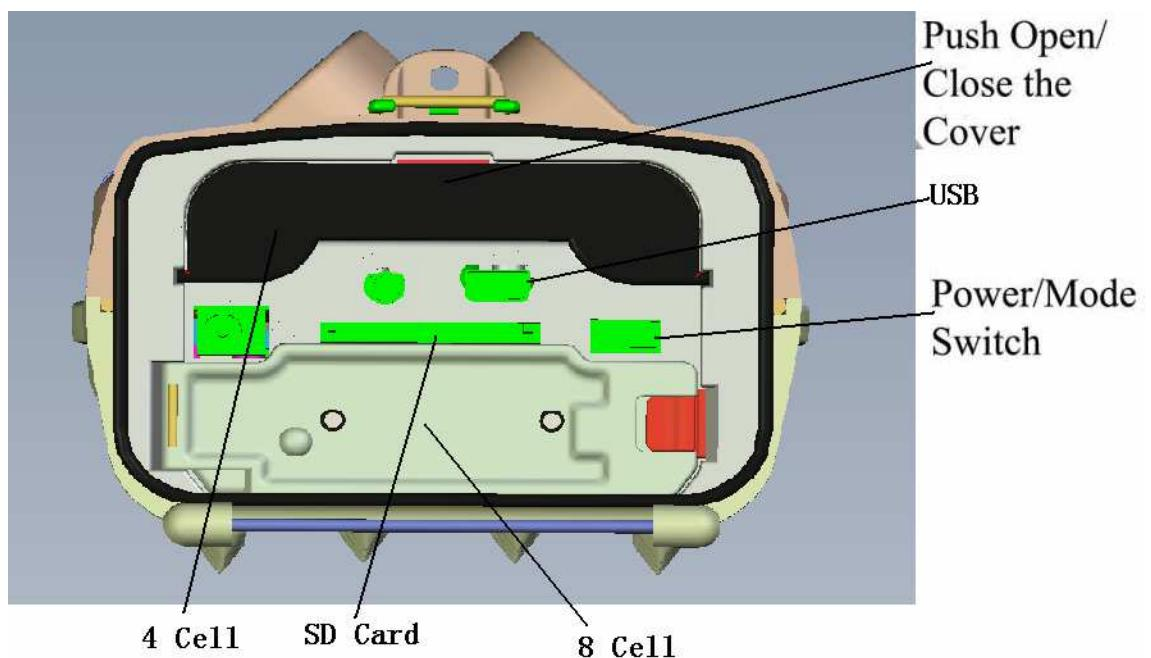

Figure 1.2: Bottom View of Ltl-6210M
- Figure 1.2 shows the bottom view of the camera (Part # Ltl-6210M)